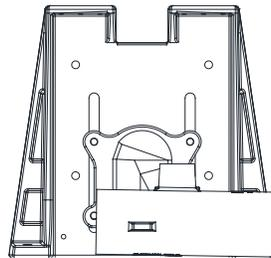

Figure 4b
- b. For fitting in the lowest position, see Figure 4b.